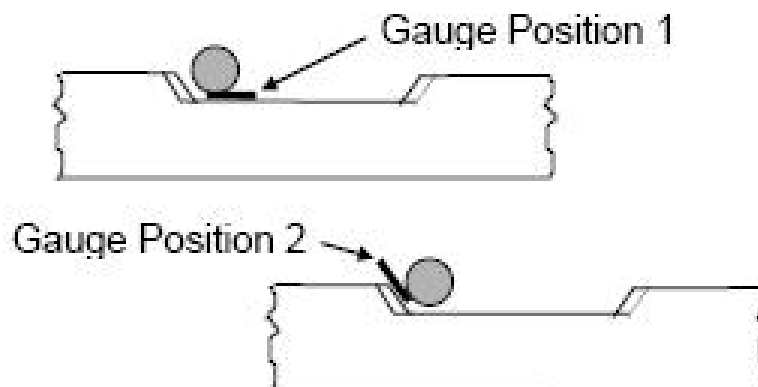

Figure 7 - Gauge Position – Reverse Position
- 3.12 Repeat steps 3.5 - 3.11 for the points in the reverse position (Figure 7).